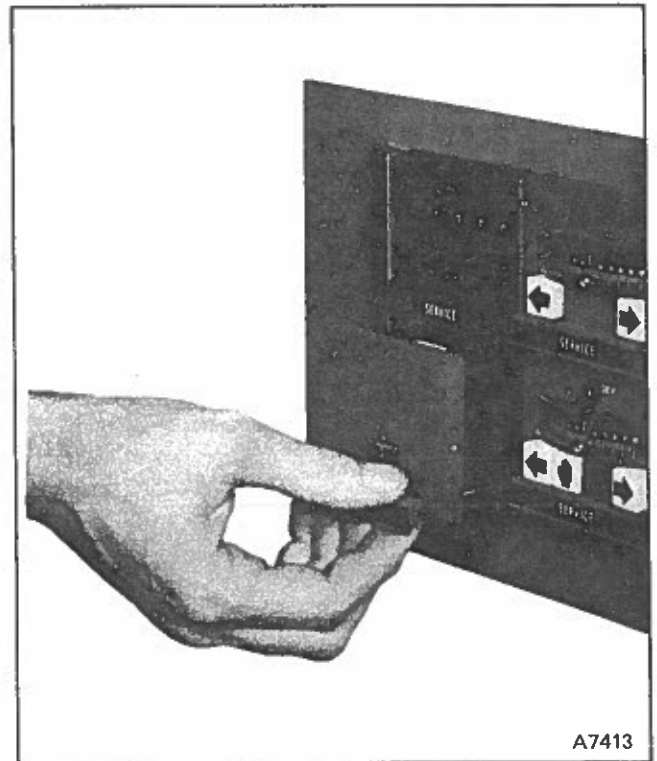

FIGURE 2 — Removing Station from Enclosure
3. Pull-out handle on Station front plate to stop (Figure 2).
1. Pull handle out and withdraw Station from Enclosure (Figure 2).